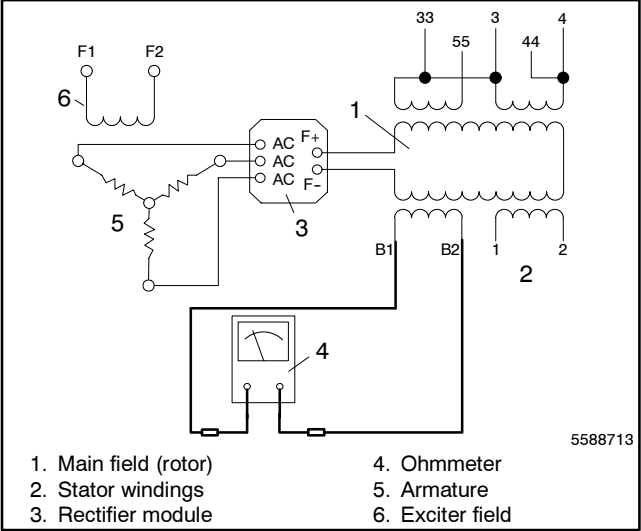

Figure 7-13 Stator Ohmmeter Connections
The stator produces electrical output (AC) as the magnetized main field rotates within the stator windings. Test the condition of the stator according to the following procedure. Refer to the schematic in Figure 7-13 when performing the following tests.
- Disconnect all the stator leads to isolate the windings. To check the stator continuity, set the ohmmeter on the R x 1 scale. Contact the red and black ohmmeter leads; adjust the ohmmeter to zero ohms. Check the stator continuity by connecting the meter leads to the stator leads as shown in Figure 7-13. Perform the stator tests on all the stator windings. See Figure 7-14.